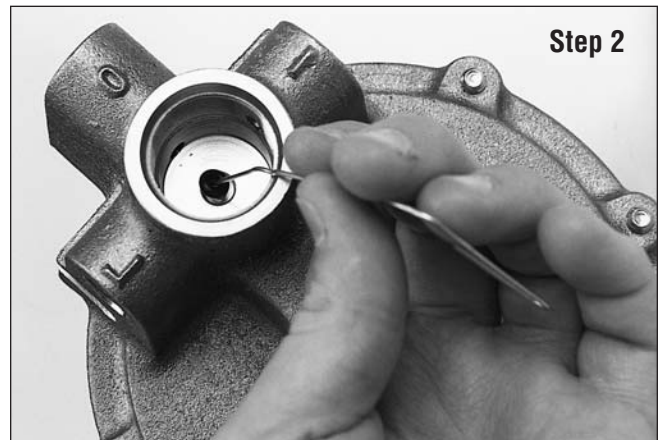

Figure 17 - A paper clip easily pops the O-Ring out of the pilot body.
2. Remove the Stem O-ring from the pilot body using a suitable tool. Be careful not to scratch the O-ring Groove (refer to Figure 17).